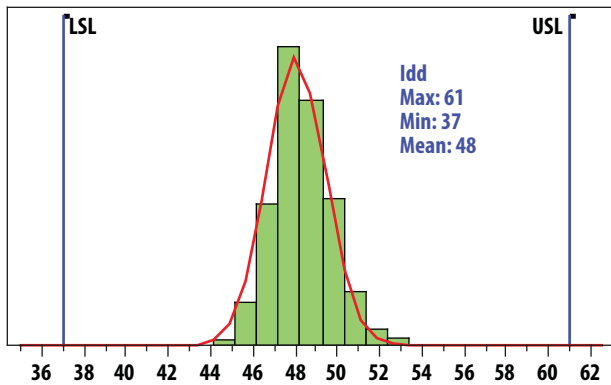

Figure 1. Idd @ 1.9GHz, 5V, 48mA Mean = 48
RF performance at TA = 25°C, Vdd = 5V, Rbias = 5.6 kOhm, 1.9 GHz, measured on demo board in Figure 1 with component listed in Table 1 for 1.9 GHz matching.
1. Measurements at 1.9 GHz obtained using demo board described in Figure 1.